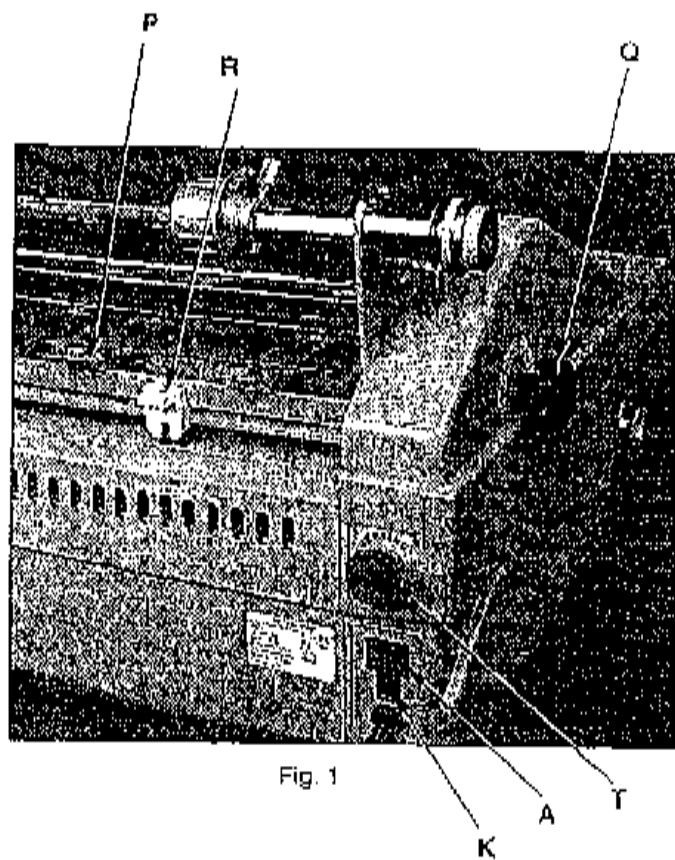

Fig. 1
A. POWER SWITCH: Fig. 1. Located at the back of the machine applies power to the laminator. The LCD display panel will illuminate when position marked "I" is pushed. The off position, marked "O", removes power from the laminator.
K. CIRCUIT BREAKER: Electrical safety device, located on the back of the laminator near the power cord, can be reset by the operator if tripped (Figure 1).
P. SIDE SLITTERS: The slitters can be adjusted to slit the sides of the web as the product being laminated exits the unit. Three slitters enable the operator to run two up and slit both sides of each item, (Figure 1).
Q. SIDE SLITTER ENGAGEMENT KNOB: Located on the left side engages and disengages the side slitters, (Figure 1).
P. SIDE SLITTER: Used to cut off the laminated web, (Figure 1).
R. REAR SLITTER: Used to cut off the laminated web, (Figure 1).
T. EMERGENCY STOP: Used to instantly stop the motor in the event of an emergency. If engaged, twist the knob clockwise to release, (Figure 1).